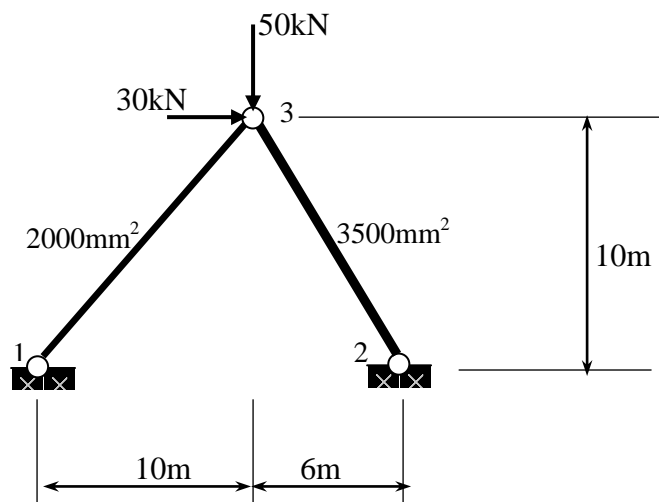
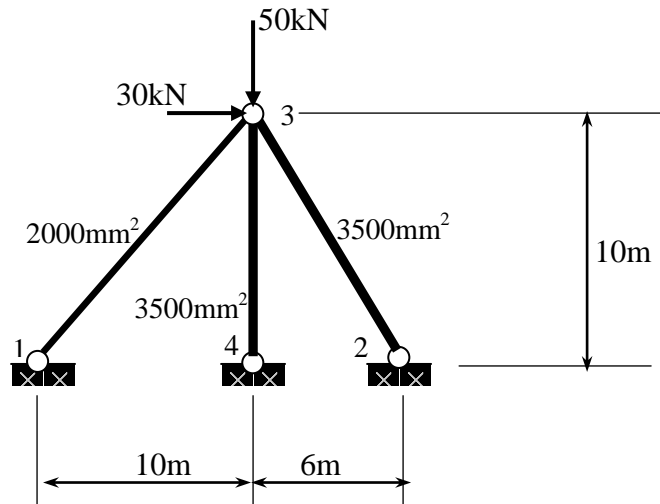

Figure 3
Figure 4
3. (b) Figure 3 shows a two-member truss subjected to horizontal and vertical loads of 30kN and 50kN, respectively, at joint 3. Member cross sectional areas are as indicated in the Figure 3. A decision has been made to include a third member 4-3 with cross sectional area of 3500mm² as shown in Figure 4. By using the method of least work, compute: